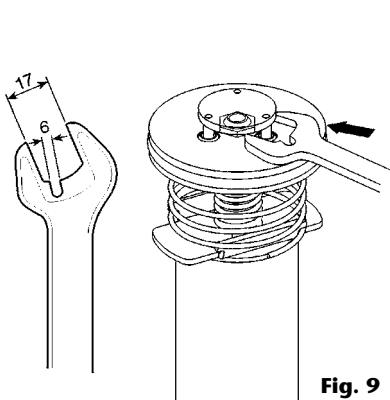

Fig. 9
2. Check the upper spring (3) and the spring stop (4) inside the air motor dolly (1). Replace in case of damage.
3. Dismount the lower circlip (20) and muffler (19) and washer (18) and pull up the inverting set until the hole in pump piston (10) gets visible in the opening where the muffler was dismantled. Introduce a steel rod (8 mm) in the hole to lock the piston.
4. Use a prepared 17 mm wrench (see fig. 9) to disassemble the inverting set (5).